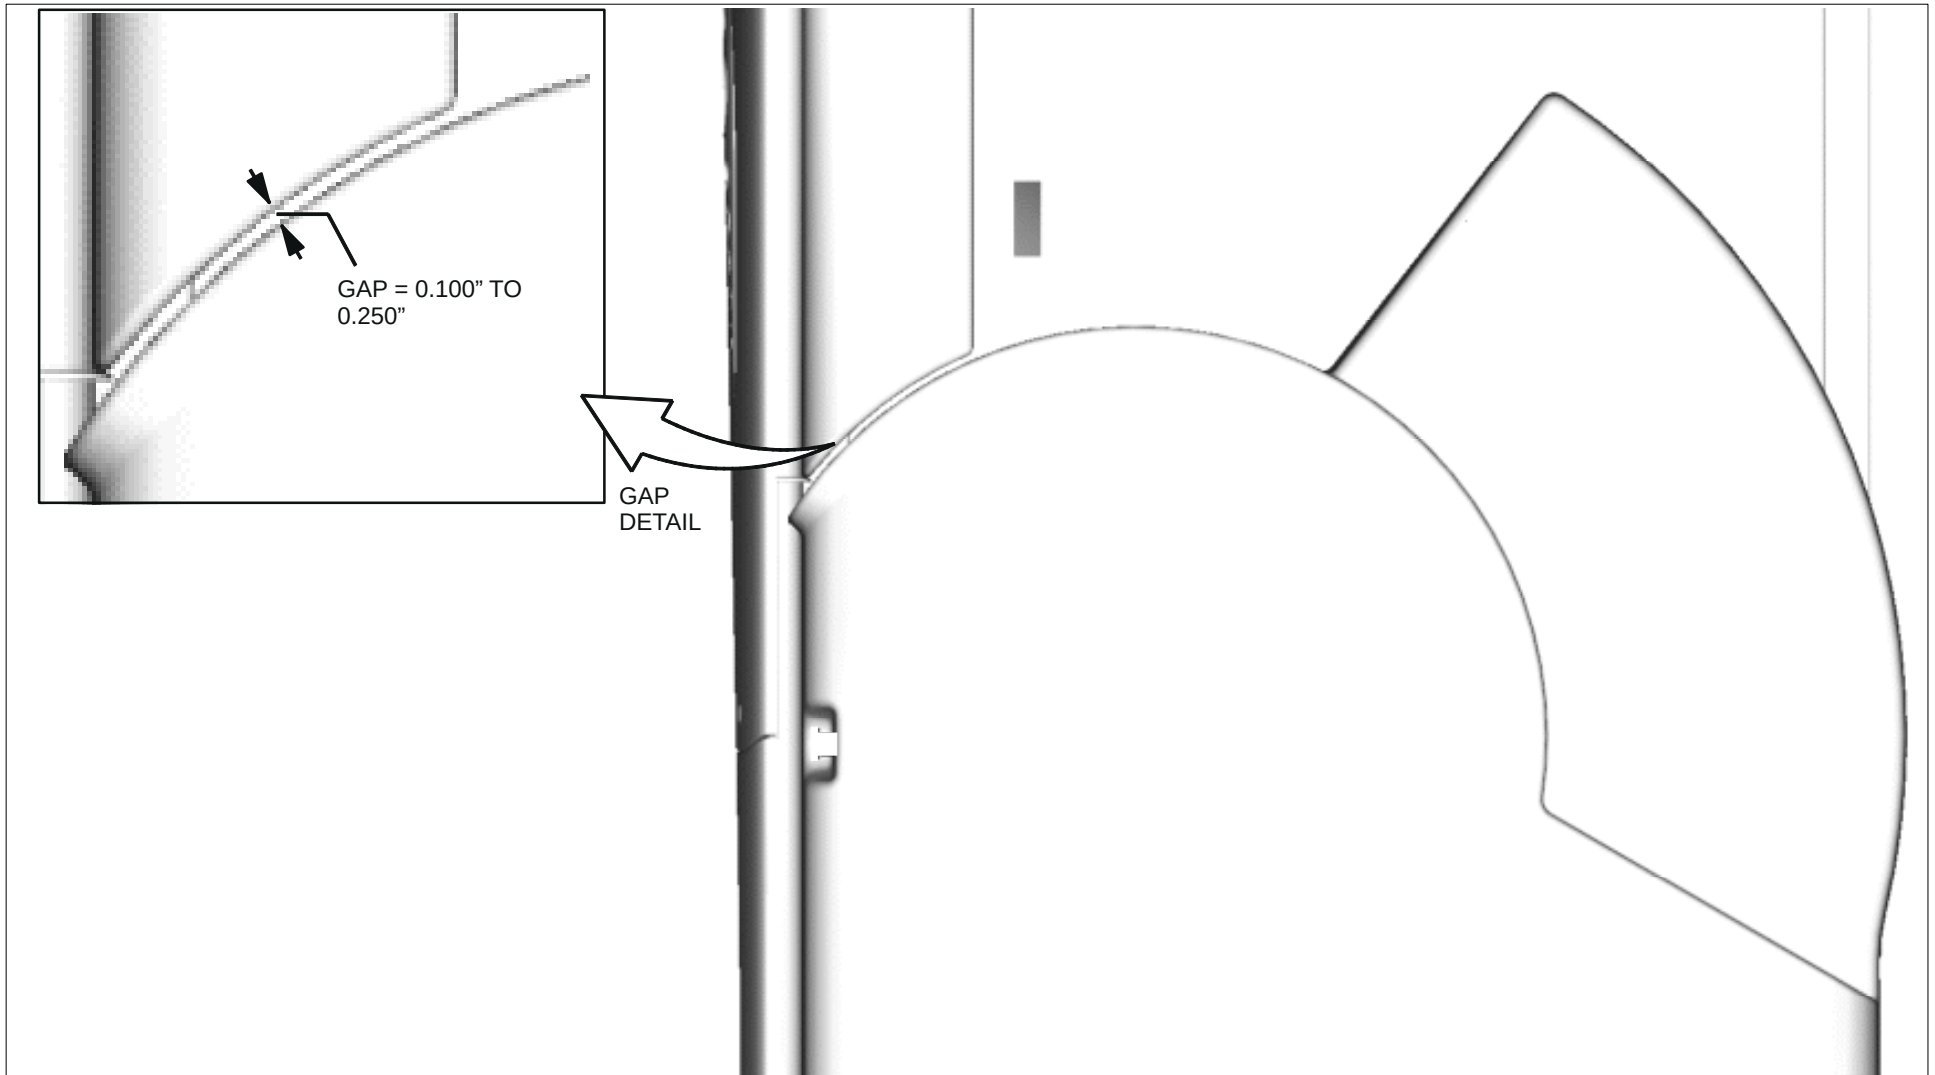

FIGURE 10 GAP BETWEEN SIDE COVER AND FRONT UPPER COVER
8. Check the clearance between the Lower Right Column Cover and the Front Upper Cover as shown in Figure 10. It should measure between 0.100 to 0.250 inch. If the gap measures within the allowable range, assemble the Lower Left Side Cover (p/n 312865) in the same fashion as the right cover. If not, continue to step 9.